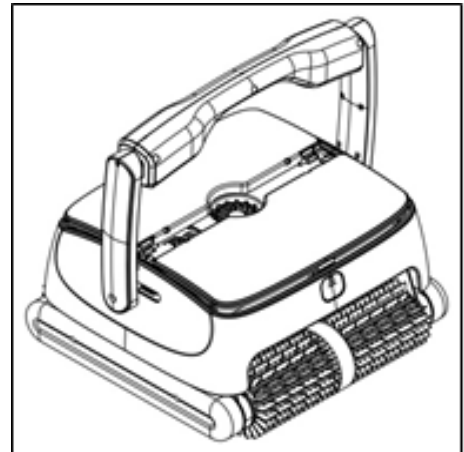

Figure 2
- b. The top cover will pop-up automatically (see Figure 2)